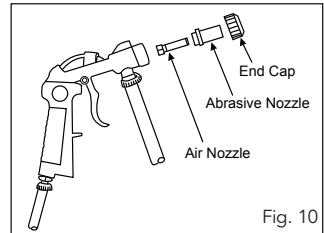

Fig. 10
Changing the Ceramic Nozzle (12) (Fig. 10)
- Pull the trigger of the blast gun (8) as a precaution.
- Unscrew the end cap and withdraw the ceramic nozzle (12).
- Replace with the ceramic nozzle (12) of your choice and carefully thread the end cap back on to the blast gun (8). Take care not to cross thread the thread.